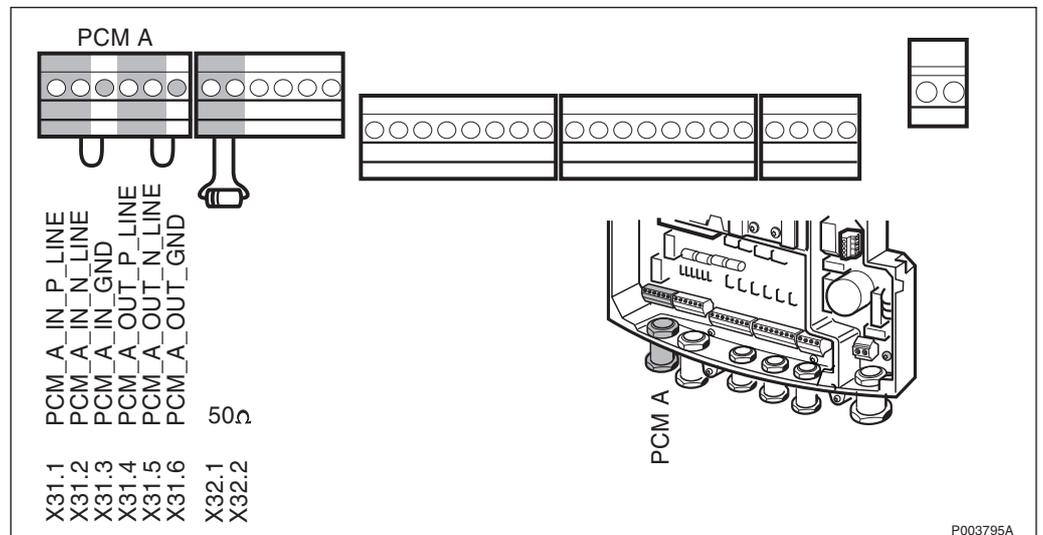

Figure 296 Connecting the 75 Ω PCM cable to the termination block
4. Make sure that a jumper wire is connected between X31.2 and X31.3. Make sure that another jumper wire is connected between X31.5 and X31.6, see *Figure 296 on page 241*.